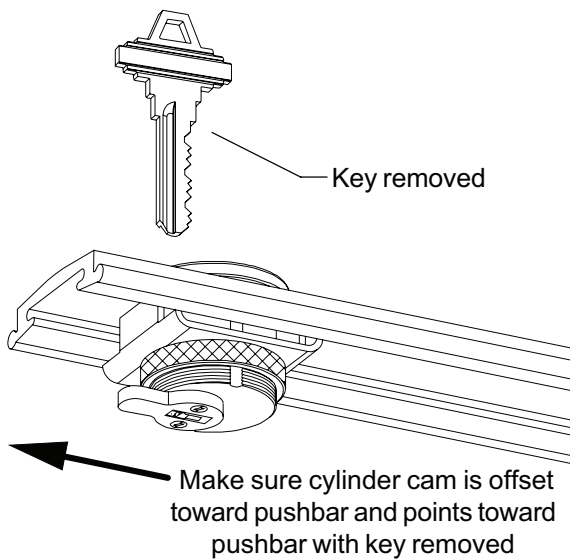

Figure 3-4
- 3.4. Remove key. Make sure cylinder and cylinder cam are in position shown in Figure 3-4 before sliding CD cover plate in place.